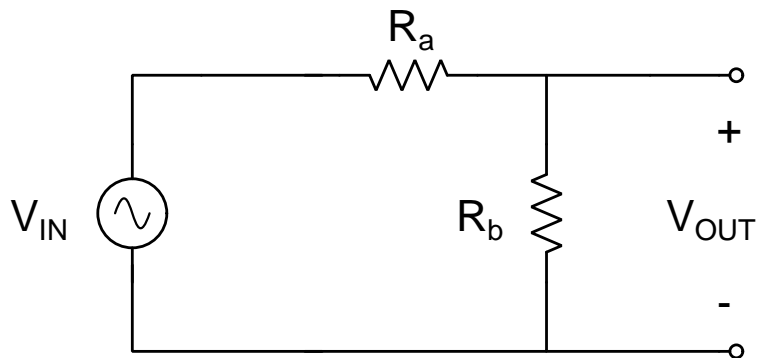
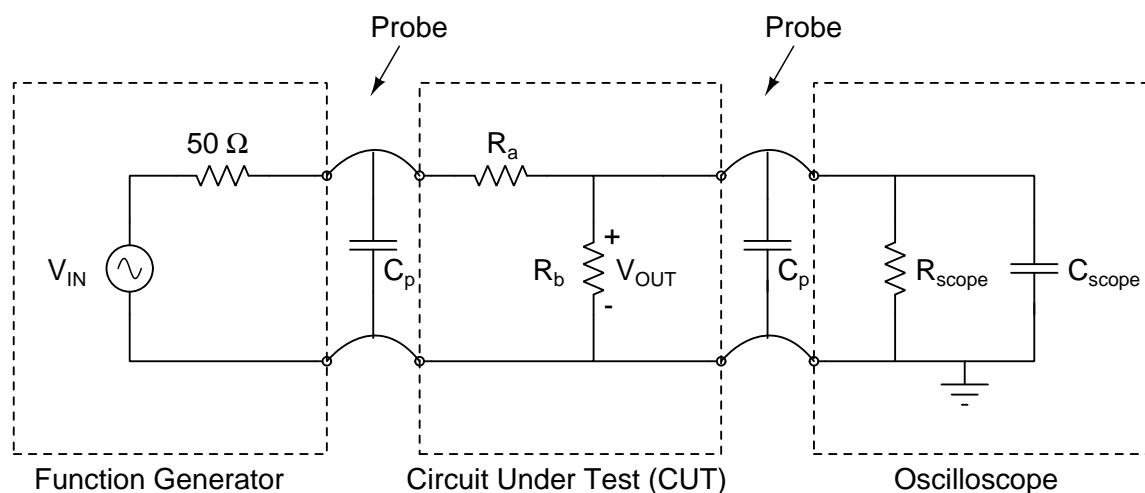

Figure 1: The circuit under test (CUT) is an ideal resistor divider circuit.
Figure 2: Measurement set-up for the resistor divider circuit.
**Introduction** In this lab you are to determine the voltage ratio,  $V_{OUT}/V_{IN}$ , produced by the voltage divider with resistors  $R_a$  and  $R_b$  shown in Figure 1.
This lab illustrates that the actual values of the components, and the impedances associated with the test equipment and cables, must be considered when determining the actual value of the voltage across a circuit element. All voltage sources, including batteries, have a finite source impedance. All measurement equipment, including oscilloscopes and digital volt meters (DVMs), have a non-infinite input impedance that presents a load to the circuit. Cables that connect the circuit to the test equipment introduce additional impedances in the circuit. The schematic of the circuit under test (CUT) when connected to a function generator and oscilloscope is shown in Figure 2.
4. For each of the three pairs of resistors, place two resistors with the same value on the breadboard to make a series circuit as shown in Figure 1. If the resistors have slightly different values, make sure you keep track of which resistor is which.
For the voltage divider circuit, an estimate of the error introduced by the measurement apparatus can be obtained by comparing the values of  $V_{OUT}$  obtained from an analysis of the circuit in Figure 1, with the values of  $V_{OUT}$  obtained from an analysis of the circuit in Figure 2.
1. Derive an equation  $V_{OUT1}(R)$  expressing the output voltage  $V_{OUT}$  as a function of the resistance  $R$  for the circuit of **Figure 1**. Do not include in the calculation the capacitance of the probes, the output resistance of the FG, or the input impedance of the scope.
2. Derive an equation  $V_{OUT2}(R)$  expressing the output voltage  $V_{OUT}$  as a function of the resistance  $R$  for the circuit of **Figure 2**. Include in the calculation the capacitance of the probes, the output resistance of the FG, and the input impedance of the scope. A Matlab® template file for solving for  $V_{OUT2}(R)$  symbolically is available at [https://davidkotecki.com/ECE214/docs/Matlab/Lab1\\_Postlab\\_Symbolic.m](https://davidkotecki.com/ECE214/docs/Matlab/Lab1_Postlab_Symbolic.m).
Use NGspice to simulate the expected output voltage  $V_{OUT}$  as a function of the resistance  $R$  for the circuit of **Figure 2**. Include in the simulation the capacitance of the 1X probes, the output resistance of the FG and the input impedance of the scope. A Matlab® template file is available on the course website at: ([https://davidkotecki.com/ECE214/docs/Matlab/ECE214\\_2020\\_Lab1\\_B.m](https://davidkotecki.com/ECE214/docs/Matlab/ECE214_2020_Lab1_B.m)).